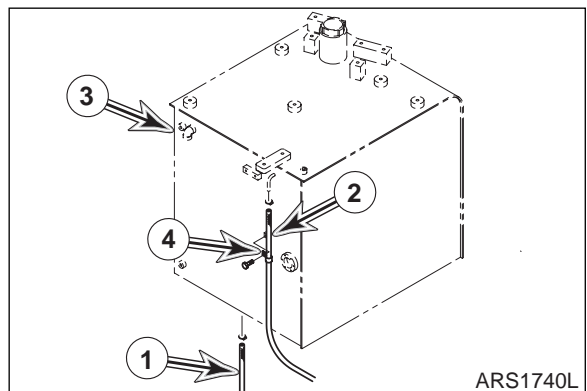

Figure 7
- Tag and disconnect fuel supply line (1, Figure 7) and fuel return line (2) from tank (3) and carefully drain remaining fuel from lines.
- Remove clamp (4, Figure 7) holding fuel return line (2) to tank (3).